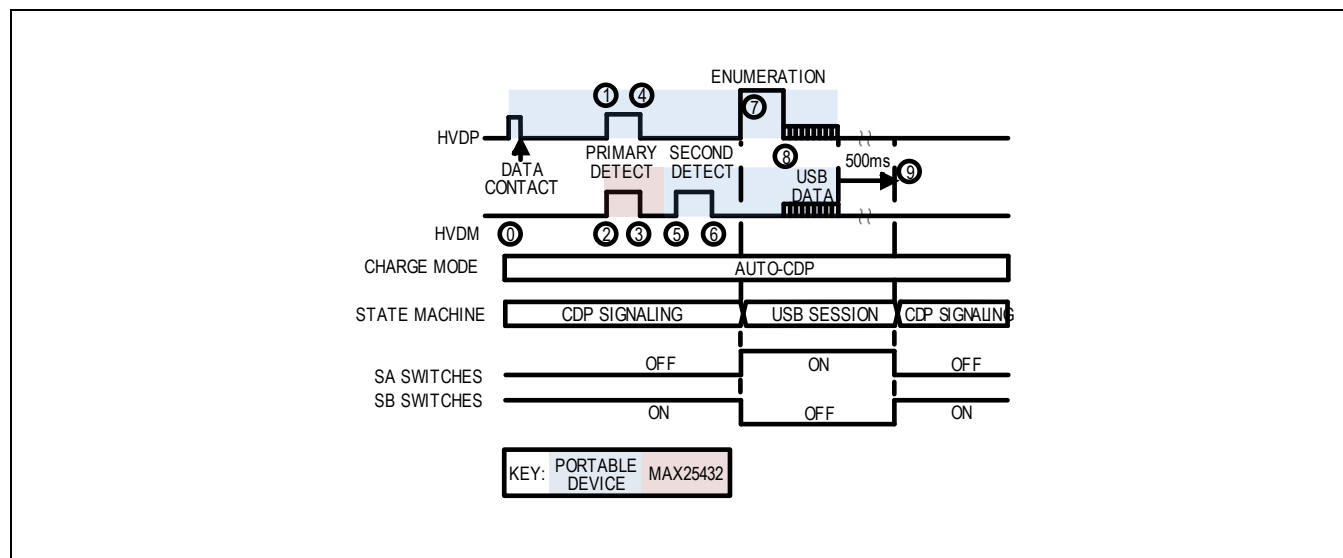

Figure 14. Auto-CDP State Diagram
- The USB data switches (SA switches) are initially open (step 0 in Figure 14), and the detection circuitry is connected to HVDP/HVDM (SB switches). This is the resting state in the Auto-CDP mode and is called CDP Signaling state. In the CDP Signaling state, 19kΩ (typ) pulldowns are applied on HVDP/HVDM and IDAT_SINK is active on HVDP.